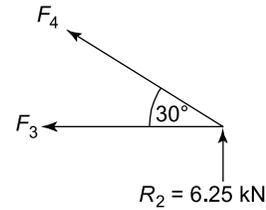

Figure 6.36
Consider joint (2); see Figure 6.36.